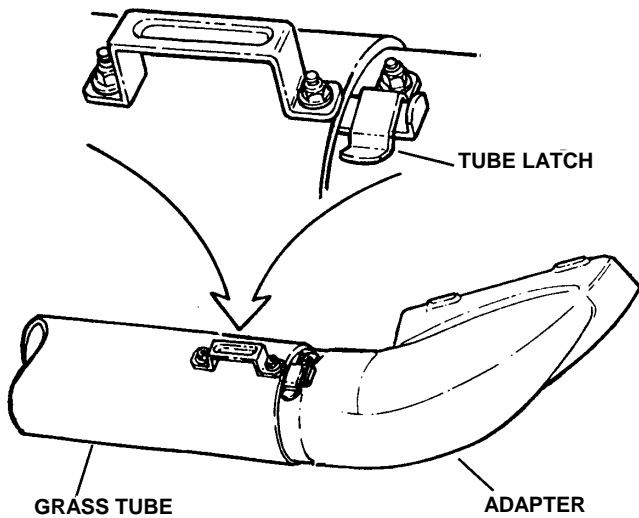

FIGURE 10
STEP 10: Slip top end of grass tube into the container top. Push backward until handle end clears the end of the chute adapter. Then slide the grass tube over the adapter opening and turn grass tube until handle base end catches under the tube latch on adapter. See Figure 10.